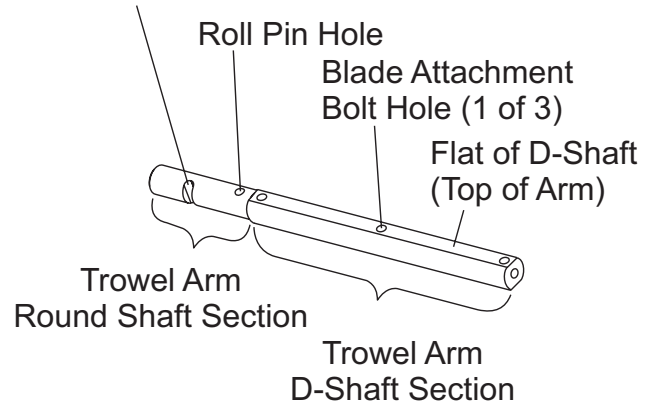
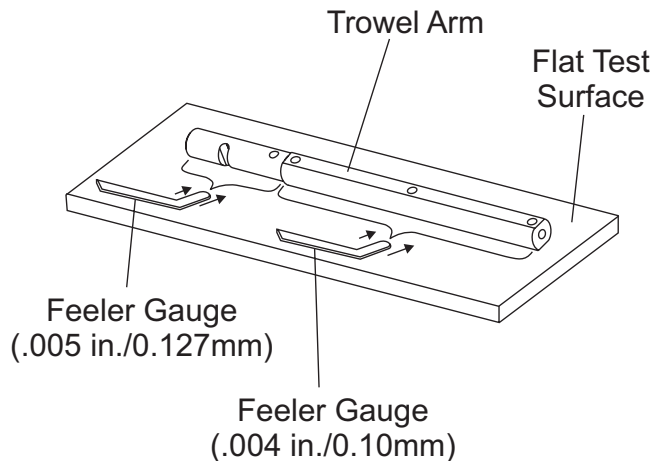

Figure 49. Trowel Arm
Figure 50. Checking Trowel Arm Flatness
Trowel arms can be damaged by rough handling (e.g. dropping the trowel on the pad), or by striking exposed plumbing, forms or rebar while in operation. A bent trowel arm will prevent the trowel from rotating in a smooth, fluid motion. If bent trowel arms are suspected, check for flatness as follows. Refer to Figure 49 and Figure 50.
- Use a thick steel plate, granite slab, or any surface which is true and flat (Figure 50) to check all six sides of each trowel arm for flatness.
- Check each of the six sides of the trowel arm hex section. A feeler gauge of 0.004 inch (0.10 mm) should not pass between the flat of the trowel arm and the test surface along its length on the test surface. See Figure 50.